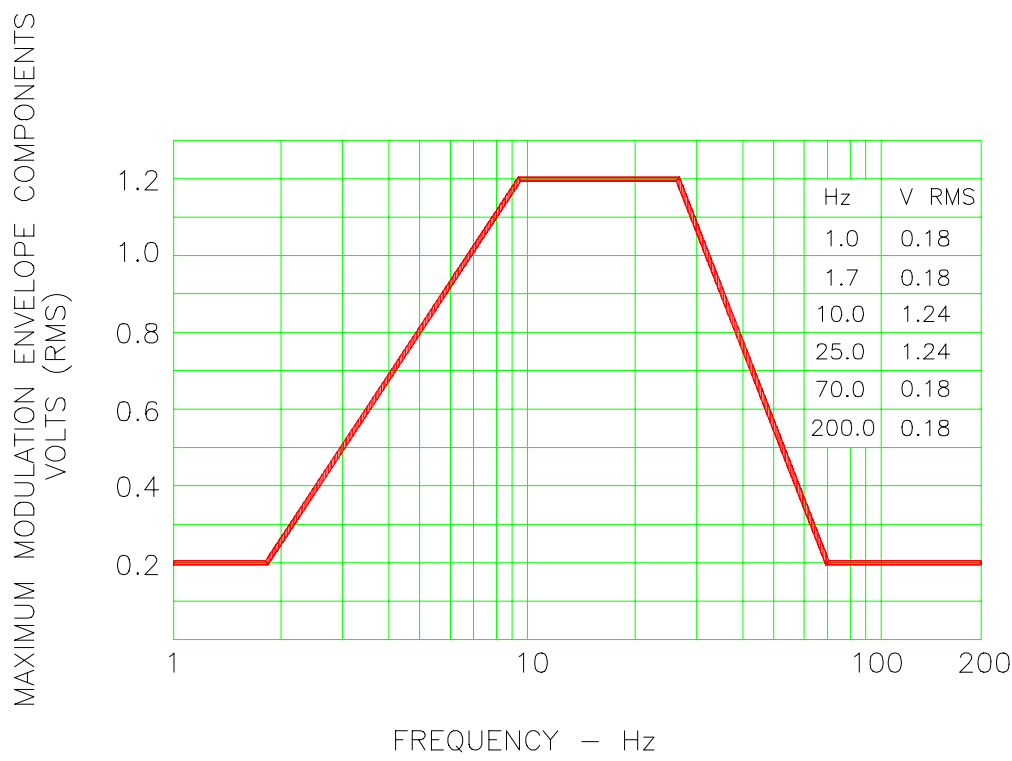

Figure 9-4: Voltage Modulation - Frequency characteristics
This test requires a numeric value entry equal to the modulation rate in Hz. This entry value must be between 1 Hz and 200 Hz. The amplitude modulation is calculated based on the modulation rate as defined in Figure 9-4. This test will last for 2 minutes.
**Note:** Voltage modulation levels change linearly from frequency 1.7Hz to 10Hz and again from 25Hz to 75Hz. See Figure 9-4.